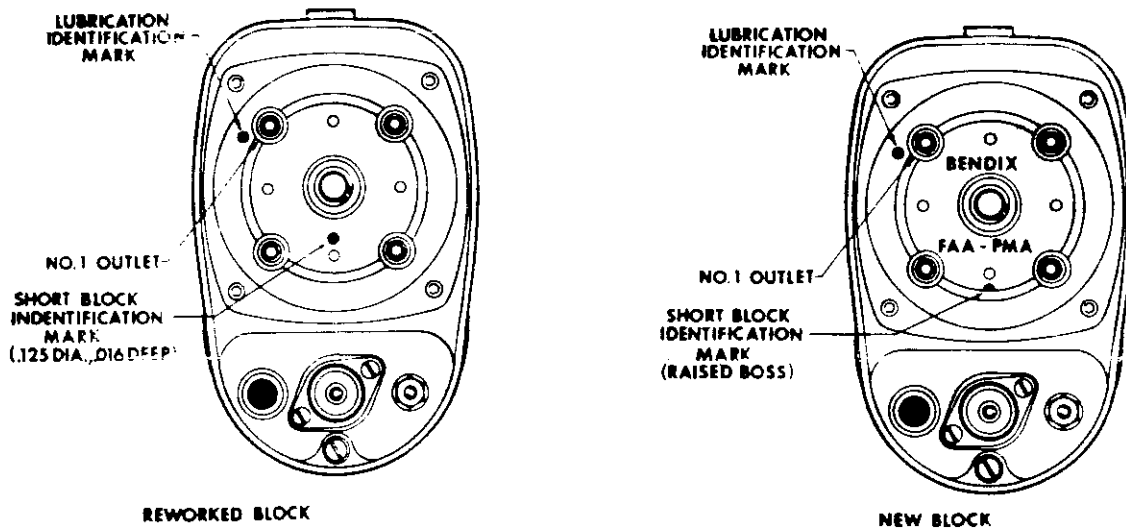

Figure 2
boss between the high tension towers at the six o'clock position and molded in letters as shown in figure 2. Reworked blocks are identified by a drill point indentation in the same location. New and reworked blocks both have different part numbers from the current (old) block. See Table 1.
7. Identify reworked blocks by drilling a flat bottomed hole .125" diameter and .016" deep in the six o'clock position as shown in figure 2.
a. If distributor block is not marked with a raised boss or drill point indentation to the left and adjacent to the No. 1 high tension tower (see figure 2), remove old lubricant from bushing as follows:
(1) Place distributor block, high tension towers up, on a piece of absorbant material, such as cardboard, in a 250°F oven for 4 hours. This should cause impregnating oil to appear on the surface of the bushing and on the absorbant material.
(2) Remove block from oven and using a clean dry cloth, immediately wipe all oil possible from inside diameter of bushing. It may be necessary to do this several times as part cools.
(3) Identify distributor block by drilling flat bottomed indentation 0.125 inch diameter and 0.016 inch deep located as shown in figure 2.